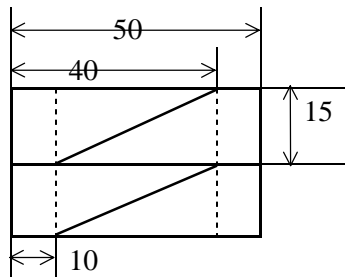

Fig. 1 (Ex.: 4 pcs.)
- 1) Cut the card as below. (Fig.1)